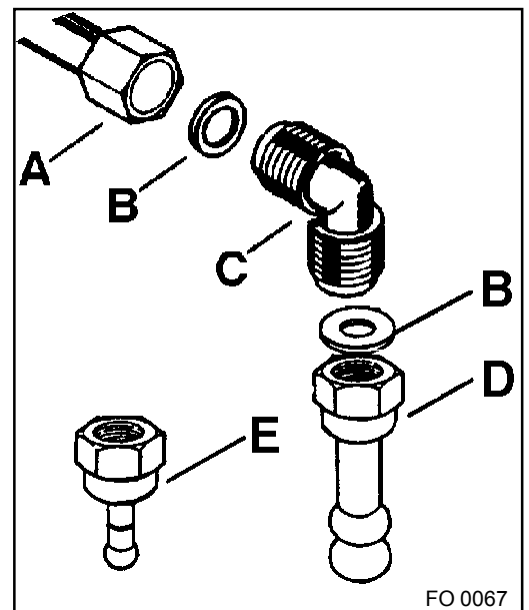

Fig. 4
The adjustable connection is fixed to the comprehensive ramp by means of a threaded nut GJ 1/2". Interpose the sealing between the components as shown in fig. 4. Screw the parts without forcing, adjust the connection in the required direction and tighten everything.
Natural gas : use the pipe fitting «D» (Fig. 4).
- nowhere it can reach overtemperature, other than room temperature, higher than 30°C; if the flexible pipe, to reach the cock, must run behind the range, it must be installed as shown in Fig. 4;